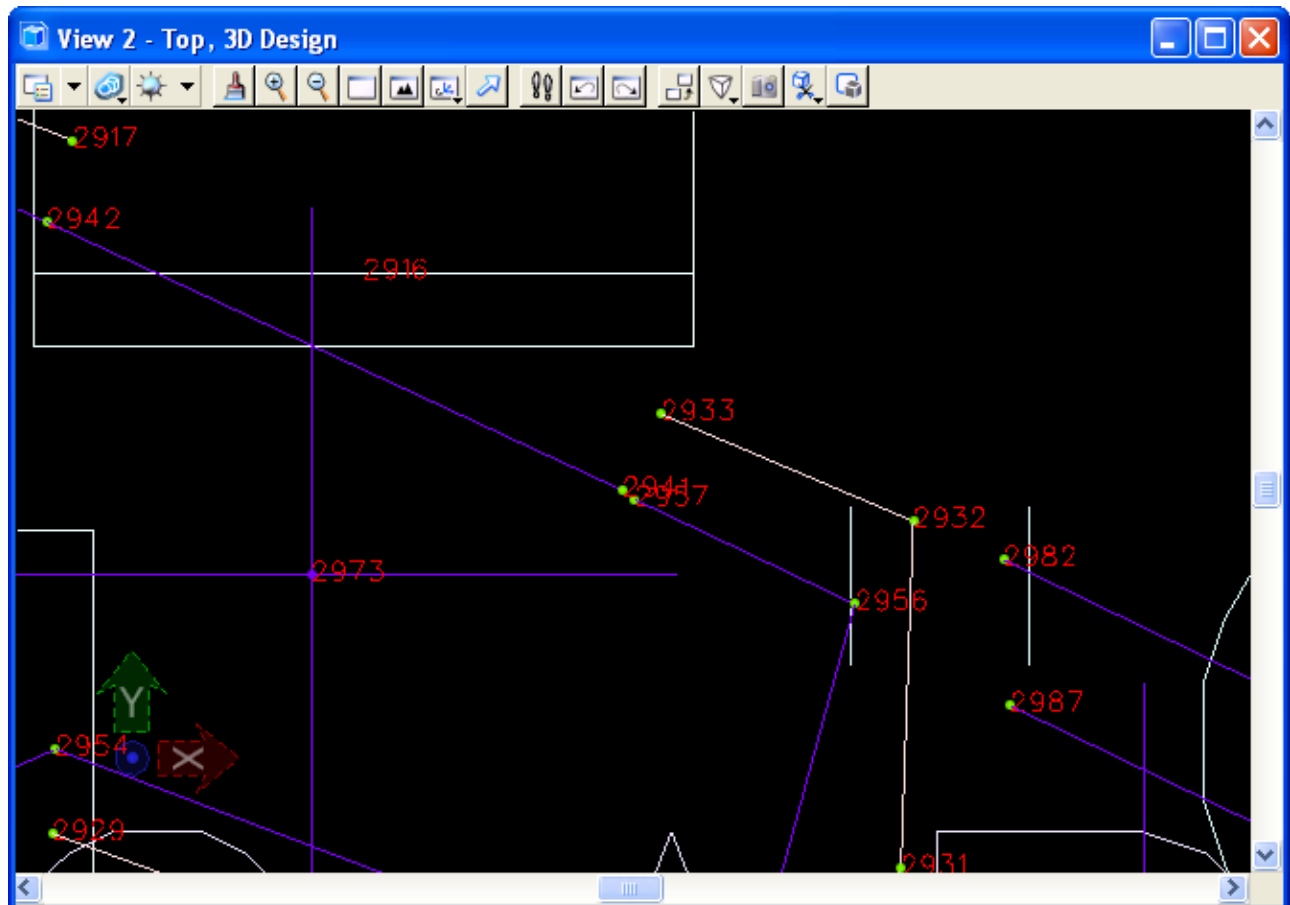

Figure 3-6 MicroStation View of Updated Point 2941
- G. Enter **999** not **333** as the code click **Apply** on the Edit Observation Dialog Box (Figure 3-5), this will execute the command. Notice (Figure 3-6) the point now has the correct symbol for the point.